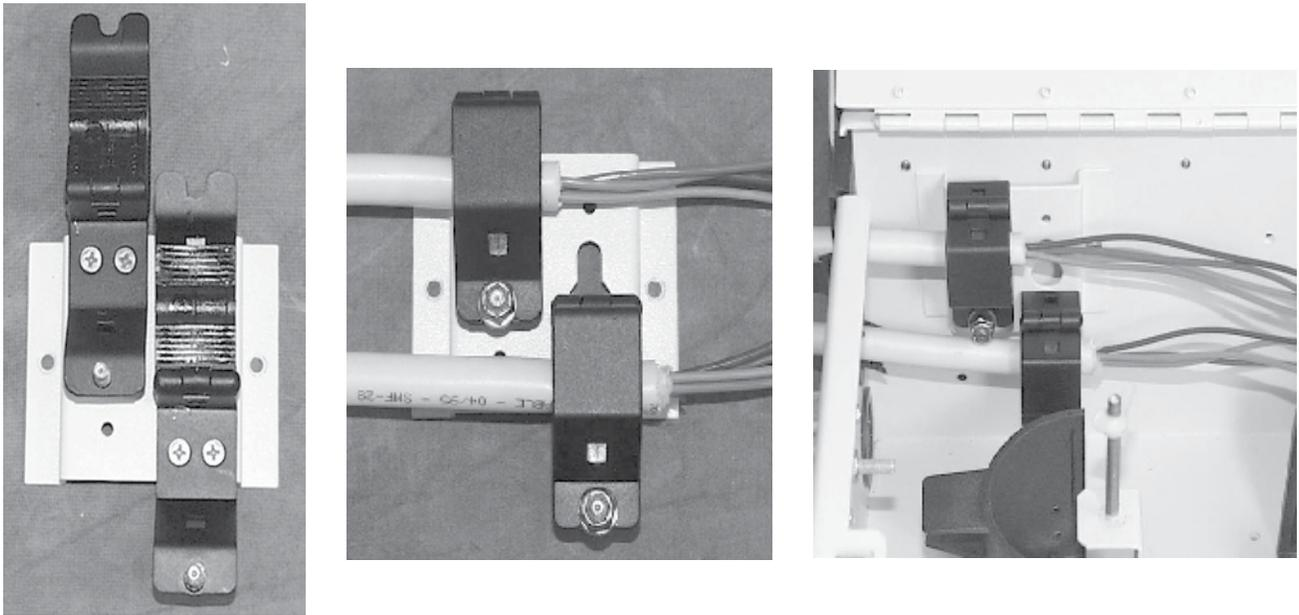

Figure 11
Step 5: When your application requires installation of two cables, attach the clamshells as shown (Figure 11).